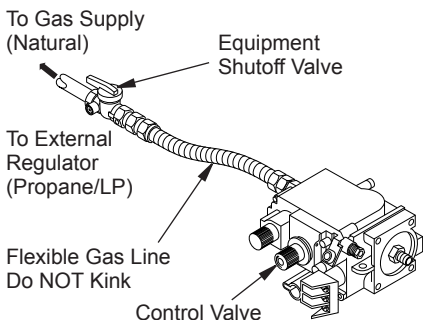

Figure 51 - Connecting Flexible Gas Line to Millivolt Valve
3. Attach flexible gas line from gas supply to control valve (see Figure 51, page 28).